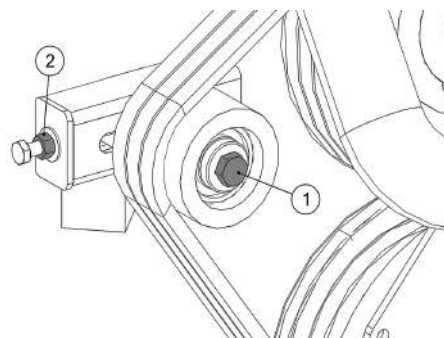

Figure 28 - Tensioner Pulley Assembly
2. Use a 19 mm spanner to loosen the bolt in the centre of the tensioner pulley until the pulley is able to slide with minimal wobble (Figure 28, Item 1).
3. Turn the nut on the end of the tensioner pulley slider until the correct belt tension is achieved (Figure 28, Item 2). (Refer to Section 5.11 "V- Belt Tensioning Procedure" on page 46.)